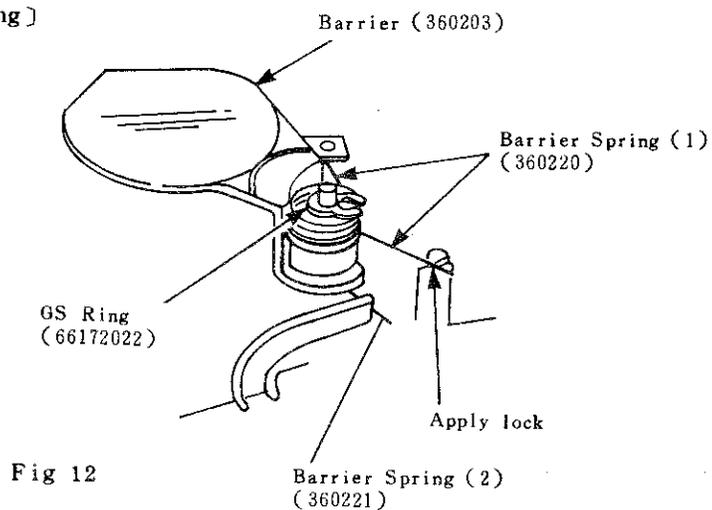

Fig 12
- a) When fixing the Barrier with the GS Ring (66172022), the GS Ring should be positioned as shown in (Fig 12) and check to make sure the movement is smooth.